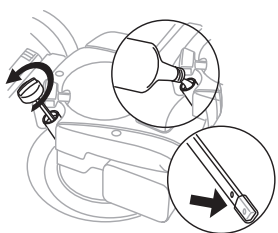

Fig.4
2. Remove oil dipstick from oil fill spout. (Fig.4)
4. Wait one minute to allow oil to settle. Insert and tighten dipstick, then remove it to check oil level. (Fig.4)